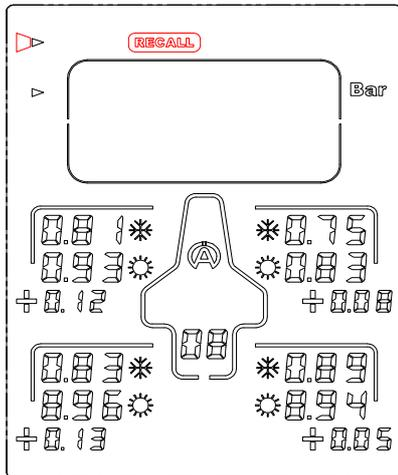

Figure 6
- 1) With the help of the buttons  , select the icon « **RECALL** » (figure 6)